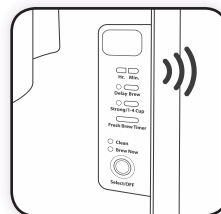

Figure 19
- 12 After brewing is complete, an audible ready signal will sound to let you know your coffee is ready. (Figure 19) **Note:** To deactivate the audible signal, press and hold the Delay Brew button for 5 seconds.